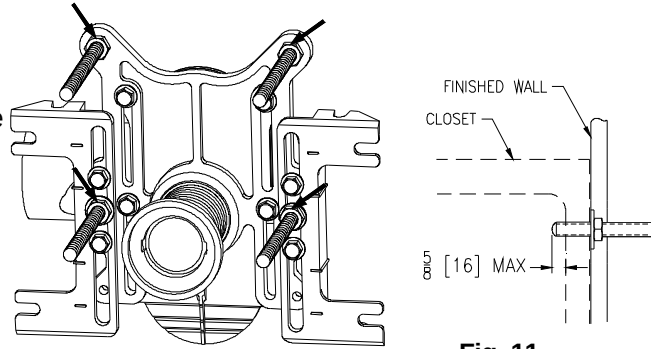

Fig. 11
11. Prep for finished wall. Fasten the (4) threaded rods from the finish bag into the faceplate, through the foot slots until each rod extends 5/8" past the closet bowl flange. Add included 5/8" washer to each lower rod, and secure nut on each of the four rods. See Fig. 11